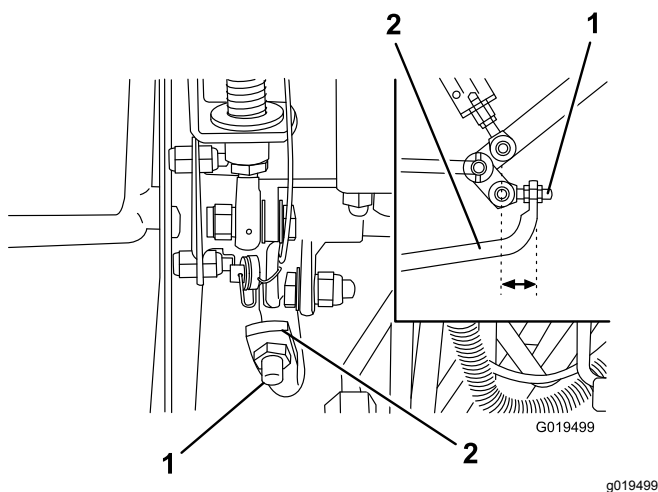

Figure 65
4. Adjust the jam nuts on the pump rod end to move the pump control tube forward to eliminate forward creep or rearward to eliminate rearward creep (Figure 65).